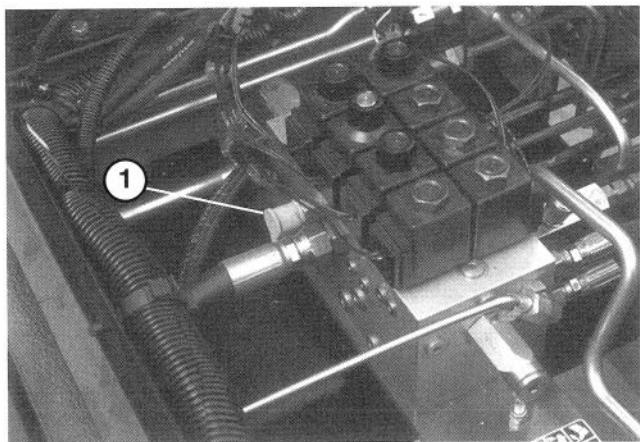

Figure 54
(Fig. 54–56)
1. Test Port #1 (Fig. 54) is used to assist in trouble shooting the hydraulic circuit for the front cutting units and lift cylinders.